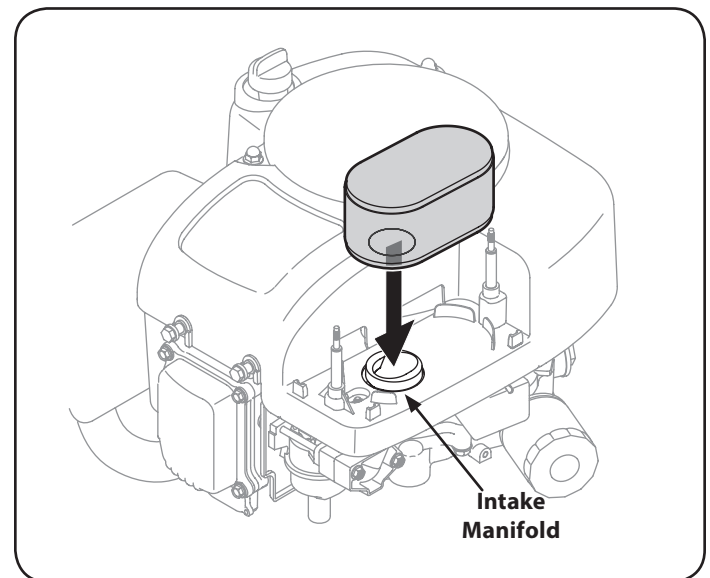

Figure 17
5. Attach the new air filter with foam element, aligning the hole in the air filter with the intake manifold. See Figure 17.